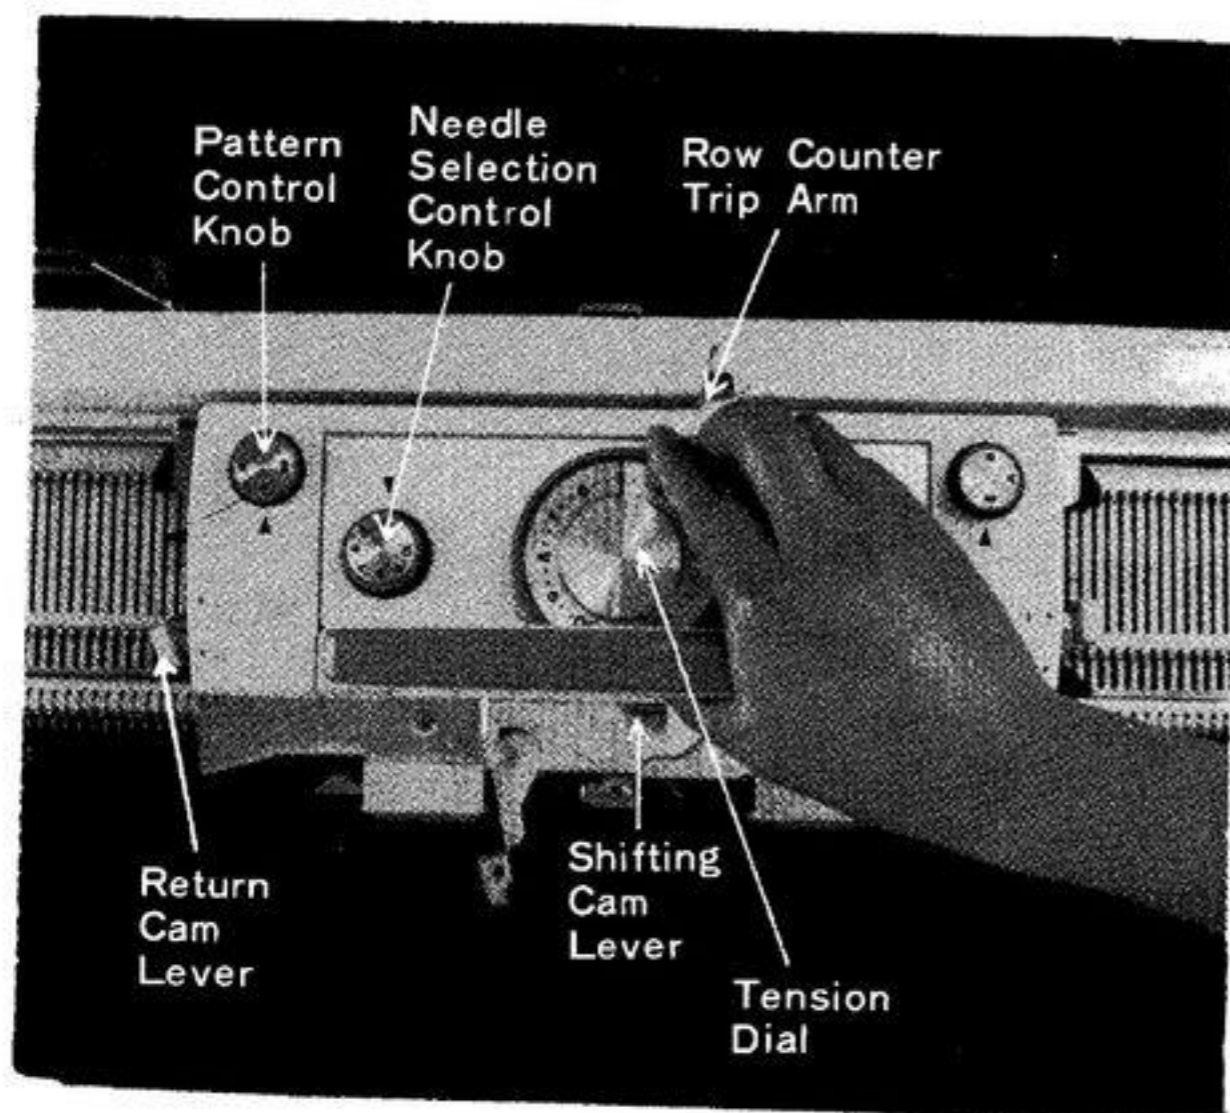

Fig. 24
- a) Set Tension Dial to No. 1 or 2 (Fig. 24)
- b) Set Shifting Cam Lever in Position "C". (Fig. 24)
- c) Move both Return Cam Levers to Position "2" i. e. Forward Position. (Fig. 24)
- d) Depress and turn Needle Selection Control Knobs to No. 4 opposite pointer. (Fig. 24)
- e) Turn Pattern Control Knobs to 'A' opposite pointer. (Fig. 24)
- k) With the carriage on the right push out the Row Counter Trip Arm (Fig. 24) and turn the Tension Dial to No. 4 or 5. (Fig. 24)
- l) Turn both Pattern Control Knobs to 'M'. (Fig. 24)
- a) Set Tension Dial to No. 4 or 5. (Fig. 24)
(Fig. 24)
- c) Move both Return Cam Levers to Position "2". (Fig. 24)
- j) Push out the Row Counter Trip Arm. (See Fig. 24)
- d) Turn Needle Selection Control Knobs to No. 4 opposite pointer. (Fig. 24)
- e) Turn Pattern Control Knobs to 'M' opposite pointer. (Fig. 24)